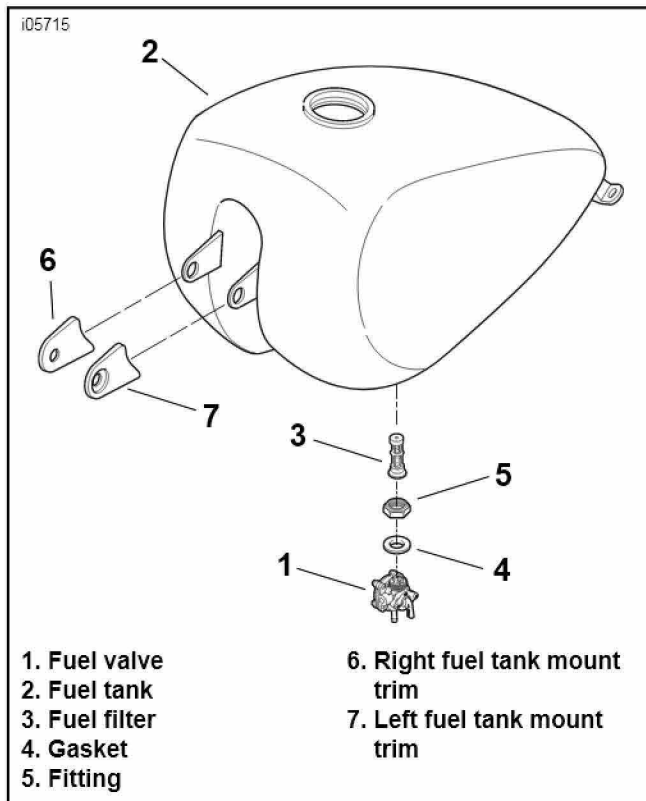

Figure 2. Install the Fuel Valve and Tank Trim
1. See Figure 2. Coat the fuel valve threads with LOCTITE® Pipe Sealant with Teflon.